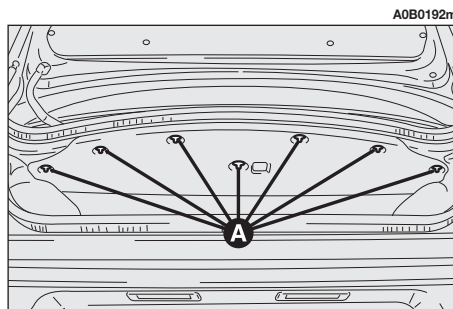

fig. 63
- Turn the fastening buttons (**A-fig. 63**) until they click and lower the trim.